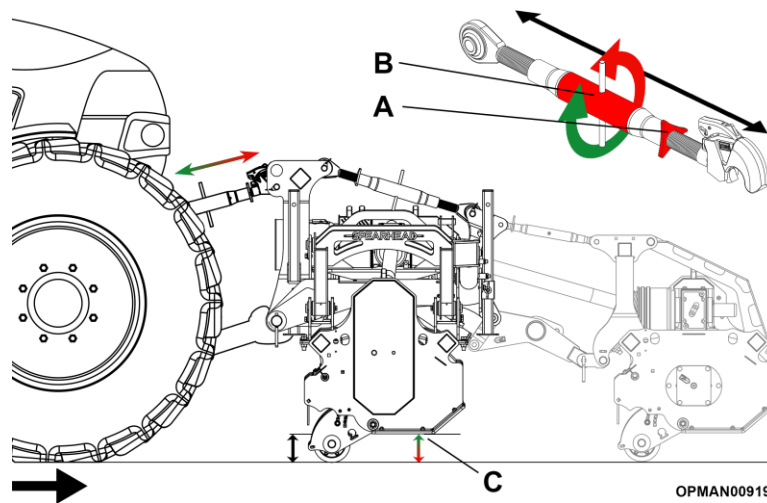

Figure 4.36 – Trident Mounted Wing Body Levelling
- 4.7.1.2 Measure from the bottom of each end of the skids to the ground; see Figure 4.36 (C) to see if the machine is level.
- 4.7.1.3 Loosen the locking collar on the top link between the tractor; see Figure 4.36 (A) and turn the barrel (B).